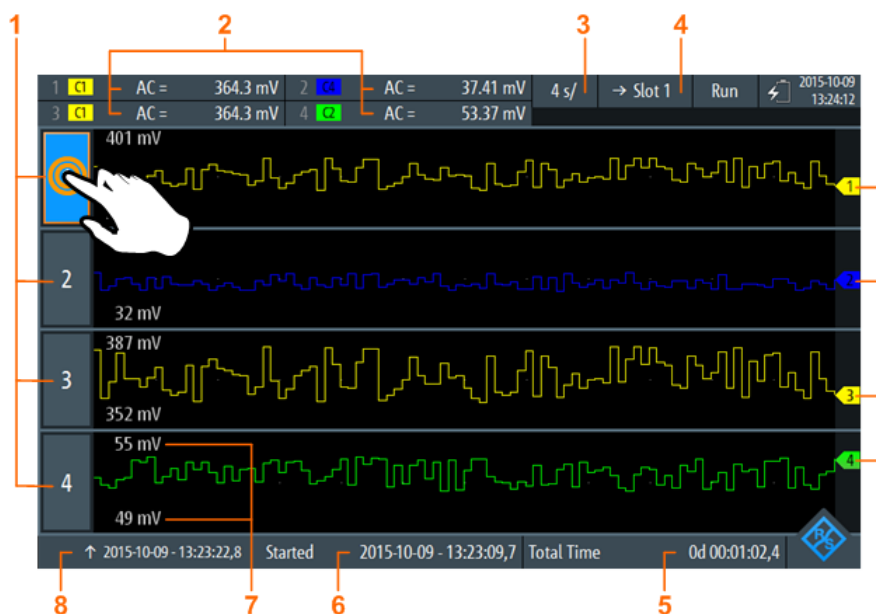

Figure 7-1: Logger display, view of all logged scope measurements
- Tap on one of the logged measurements as shown in Figure 7-1.